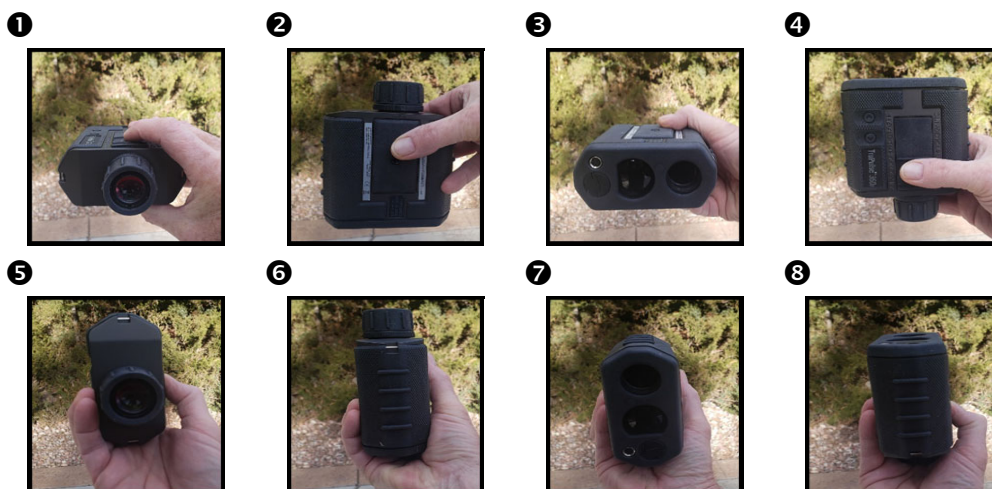

Figure 14
NOTE At each laser position, starting with ❶ shown in Figure 14, press Fire and wait about one second before shifting the laser to the next position: